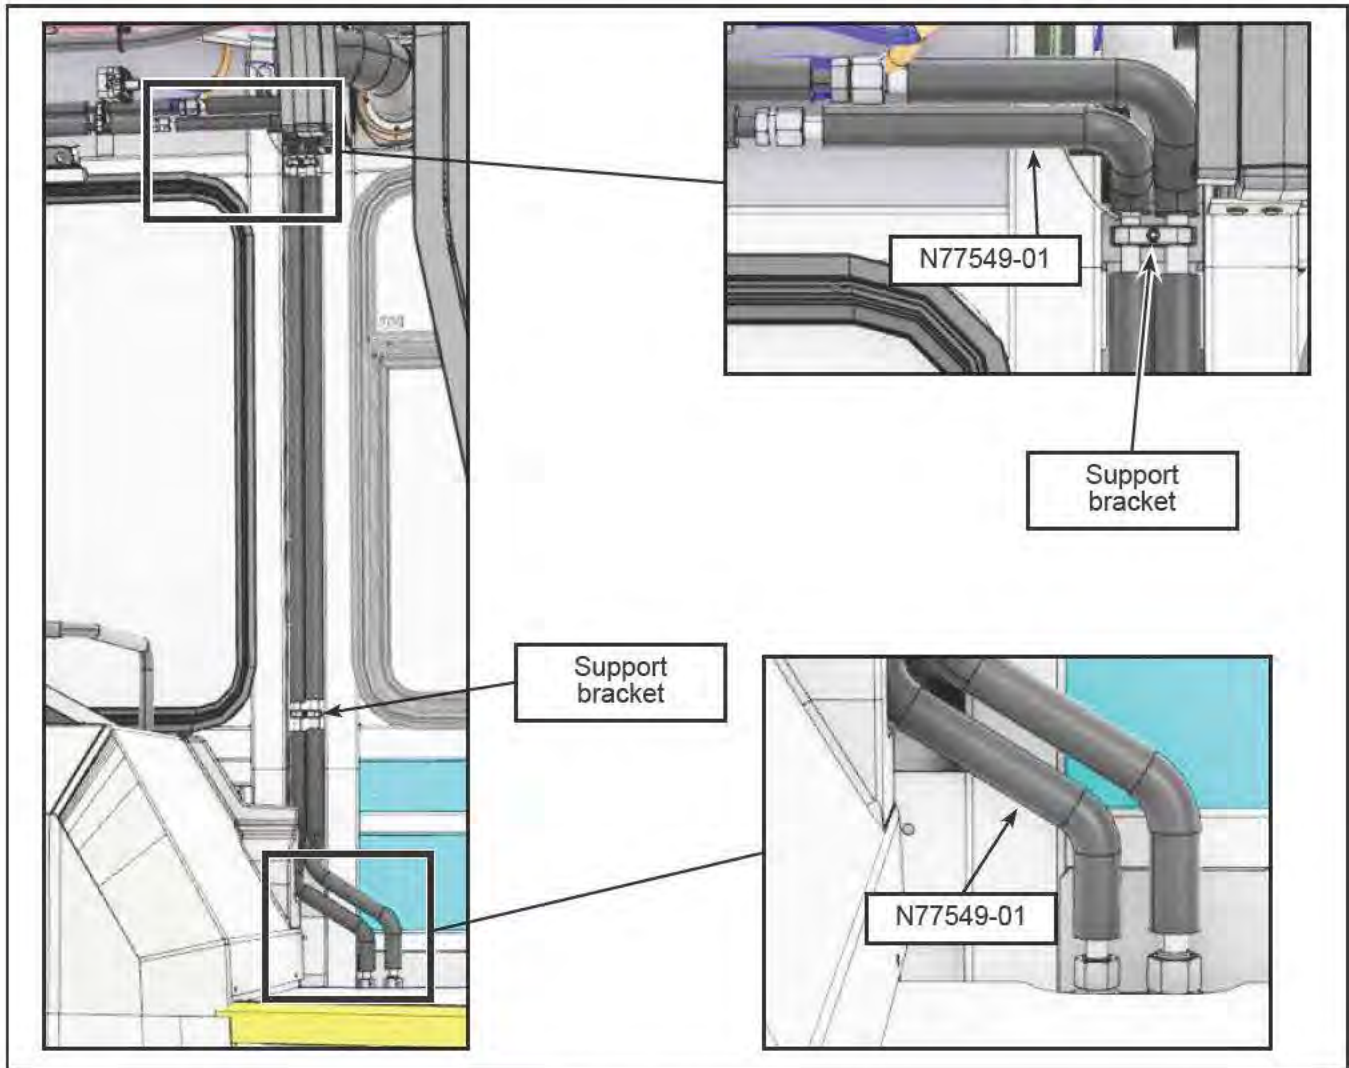

Figure 5 - Hydraulic Pipe N77549-01
- 1.15. Locate hydraulic pipe N77549-01 (Figure 5).